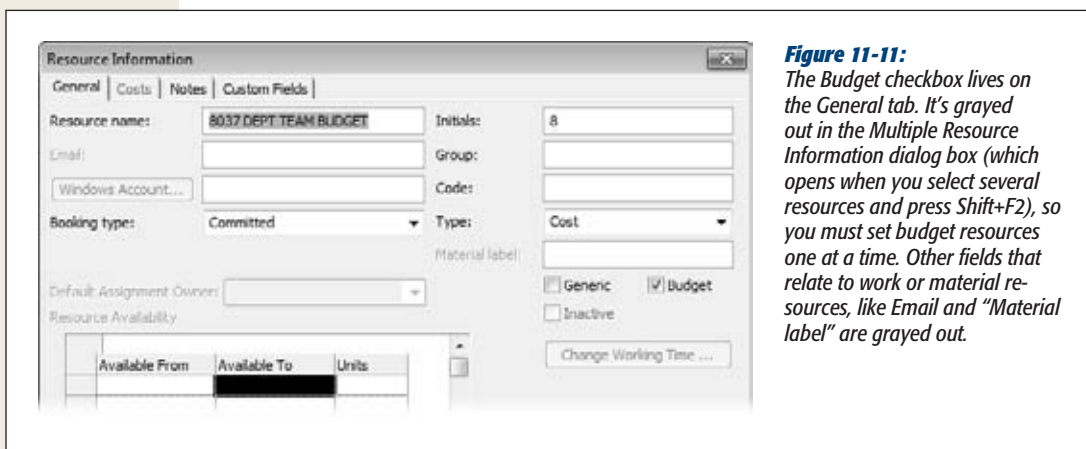

Figure 11-11:
4. On the General tab, turn on the Budget checkbox, as demonstrated in Figure 11-11, and then click OK.